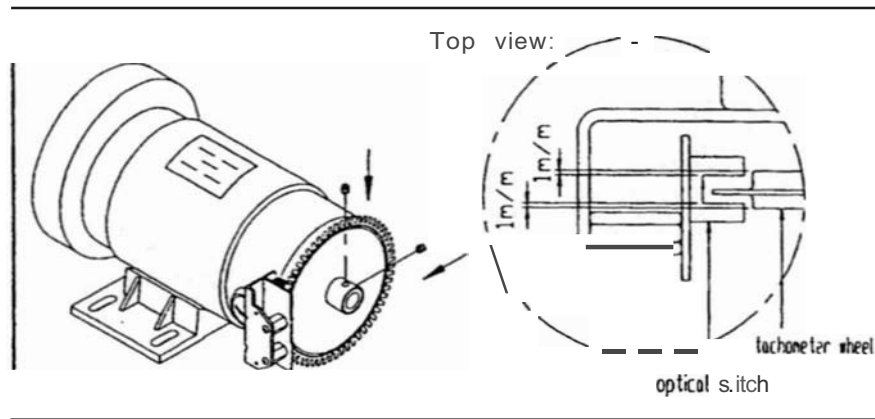

Fig.5
6. Be sure to adjust the tachometer wheel locating in the middle of the sensor. Fasten optical switch. Then use the Hex Allen Wrench to fasten the tachometer wheel with two socket screws. (see Fig.5)